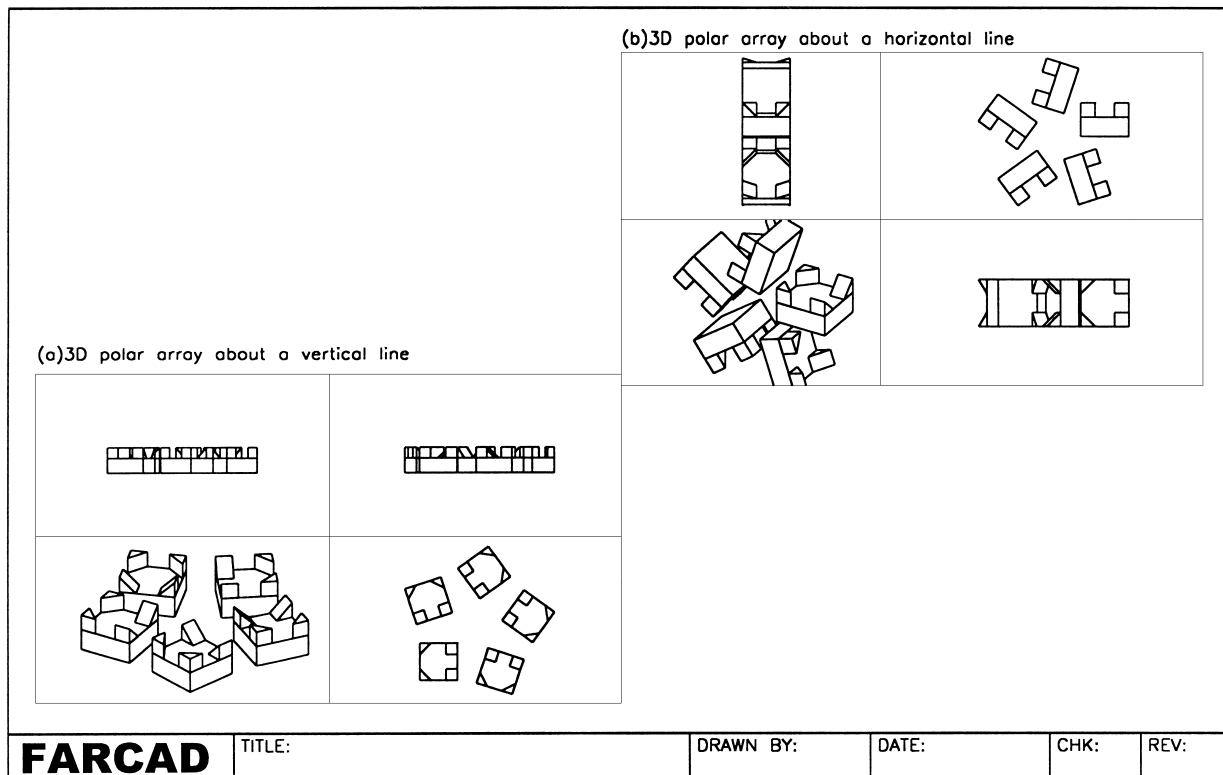

Figure 22.5 The 3D ARRAY (polar) using the 3DGEOM model.
- 3 Zoom-all then investigate the MVLAY1 tab – Fig. 22.5(a)
- 7 Investigate the MVLAY1 tab which will need a zoom-extents and then a zoom scale factor – Fig. 22.5(b)